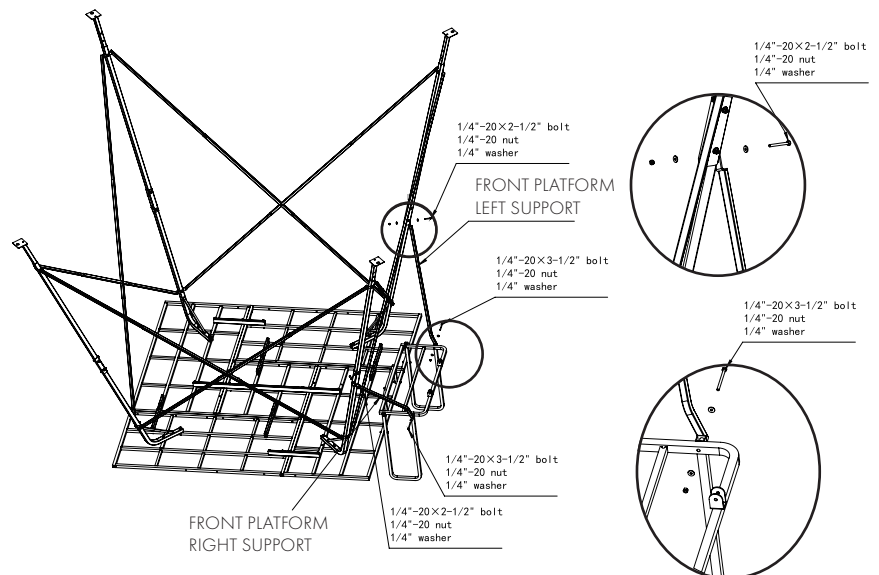

FIGURE 12
Attach the **FRONT PLATFORM LEFT SUPPORT (#15)** and the **FRONT PLATFORM RIGHT SUPPORT (#16)** to the **FRONT PLATFORM (#13)** and the **LEG CONNECTING PLATES (#6)** by using (2) 1/4"-20 x 2-1/2" bolts, (2) 1/4"-20 x 3-1/2" bolts, (4) 1/4" lock nuts and (8) 1/4" flat washers (Figure 12). **Be sure to not over tighten.**